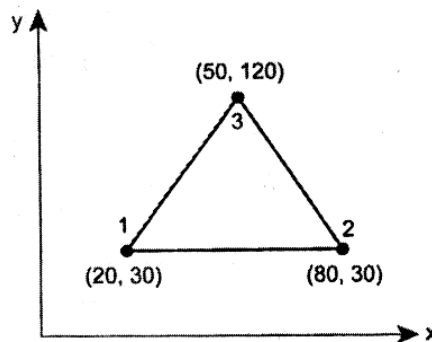

Fig 13(a)
13. (a) Determine the stiffness matrix for the CST Element shown in Fig 13(a). The coordinates are given in mm. Assume plane strain conditions.  $E = 210 \text{ GPa}$ ,  $\nu = 0.25$  and  $t = 10 \text{ mm}$ . (13)